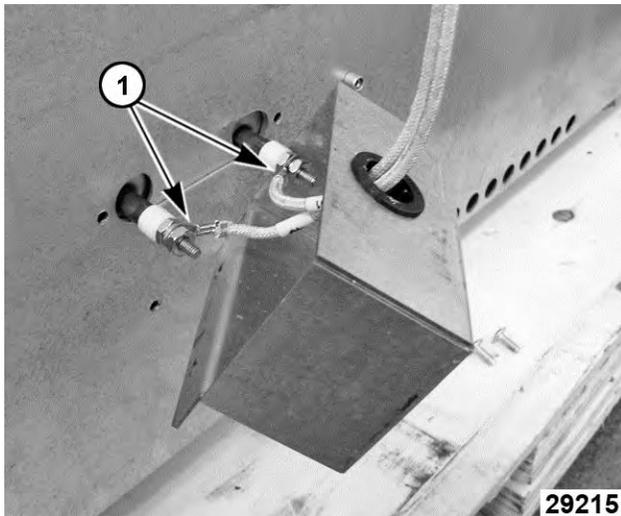

Fig. 14
3. Disconnect lead wires from element terminals (1, Fig. 14).